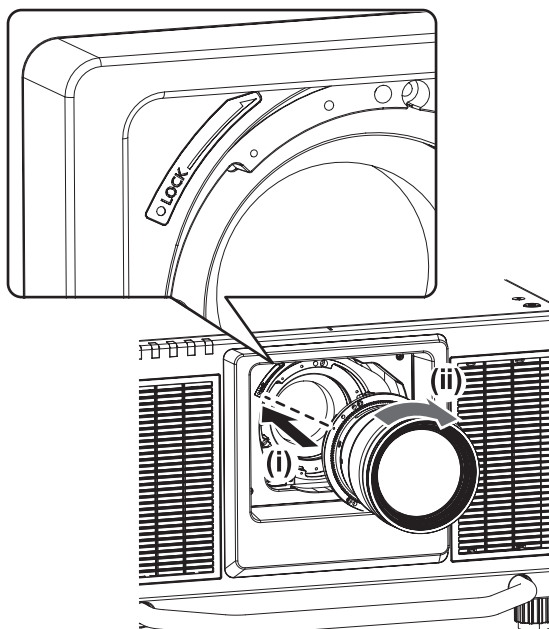

Fig. 3
3) Insert the projection lens by aligning the mark on the projection lens (orange) with the mark on the projector (○ on the left side of LOCK) and turn clockwise until it clicks. (Fig. 3)